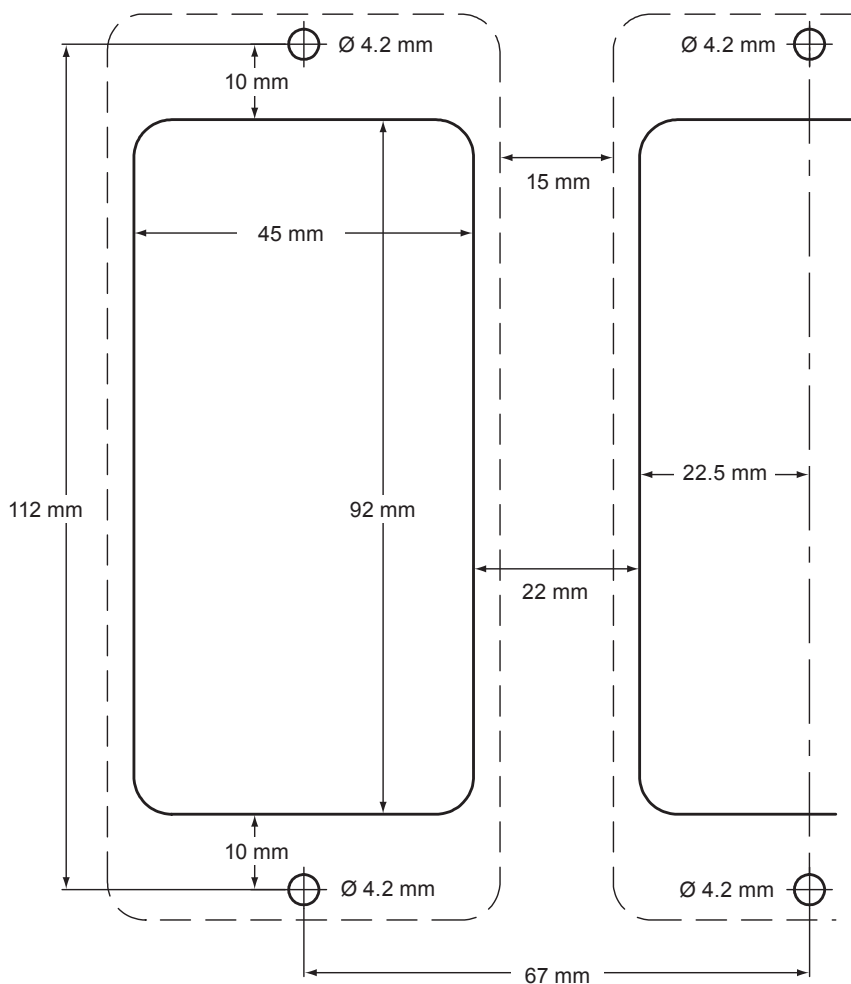

Fig. 15 Chassis plate/panel – cutout diagram
- Drill holes in chassis plate as shown in Figure 15.
- Cut the panel to the dimensions given in Figure 15. Drill the screw holes in the panel in the positions indicated.